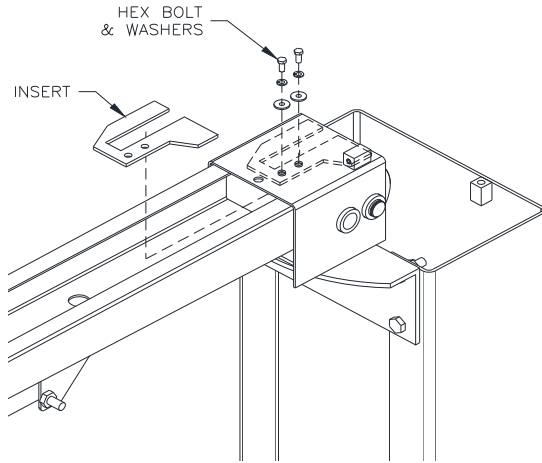

Fig 13 – Cable Trapping
- 29) Place Cable Trap Plate inside Overhead and slide into end of Overhead. Bolt plate to Overhead end using (2 Sets) M6 bolt, flat washer, and lock washer as shown in **Fig 13**. Repeat for both sides.